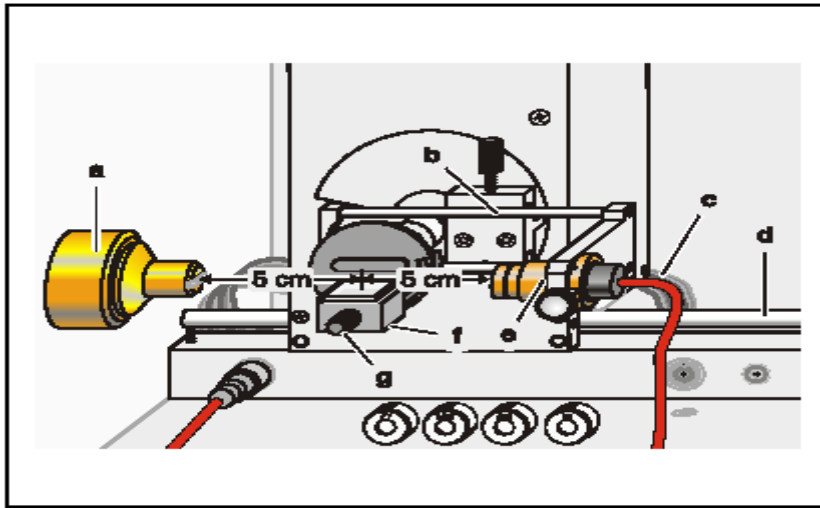

Fig. 7 Experiment setup for measuring the K-absorption edges.
- By moving the sensor holder (b), set the distance s2 between the target arm and the slit diaphragm of the sensor seat to approx. 5 cm in Fig. 7.